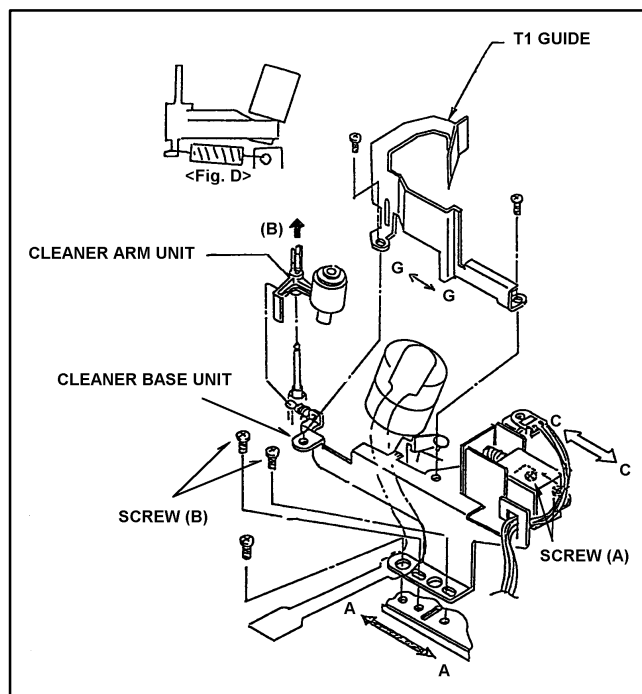

Figure 1-24-2
2. Observe the clearance (D) between Cleaning Arm Unit and Cleaner Base Plate as shown in Figure 1-24-2. And make sure that it is within 0.5 to 0.7mm.
3. If not, loosen the 2 screws (A) and adjust the position of Cleaner Solenoid Unit by moving arrow direction (C \longleftrightarrow C) using the Eccentric drive so that the clearance (D) is within specification. And tighten the 2 screws.